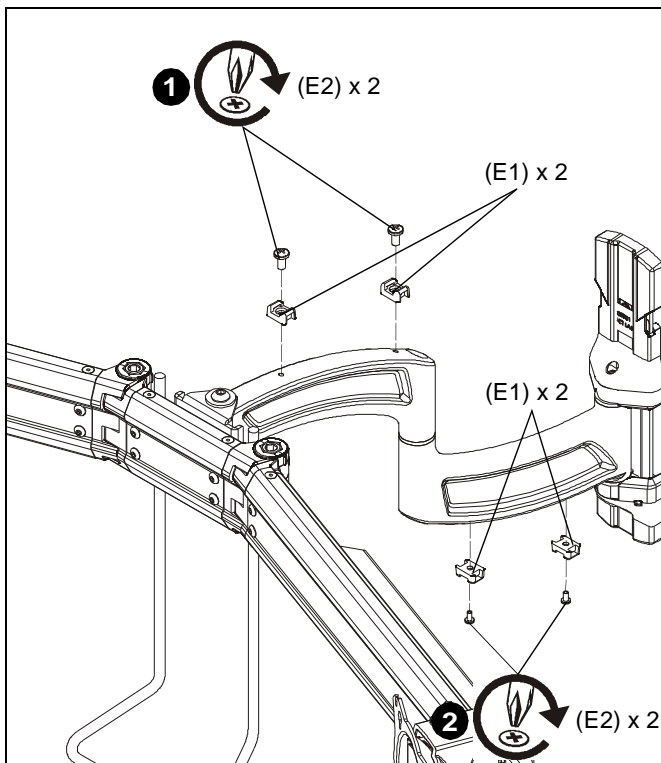

Figure 29
1. Use two #10-24 x 3/8" button head cap screws (E2) to attach two tie mounts (E1) to upper mounting arm. (See Figure 29)
2. Use two #10-24 x 3/8" button head cap screws (E2) to attach two tie mounts (E1) to lower mounting arm. (See Figure 29)